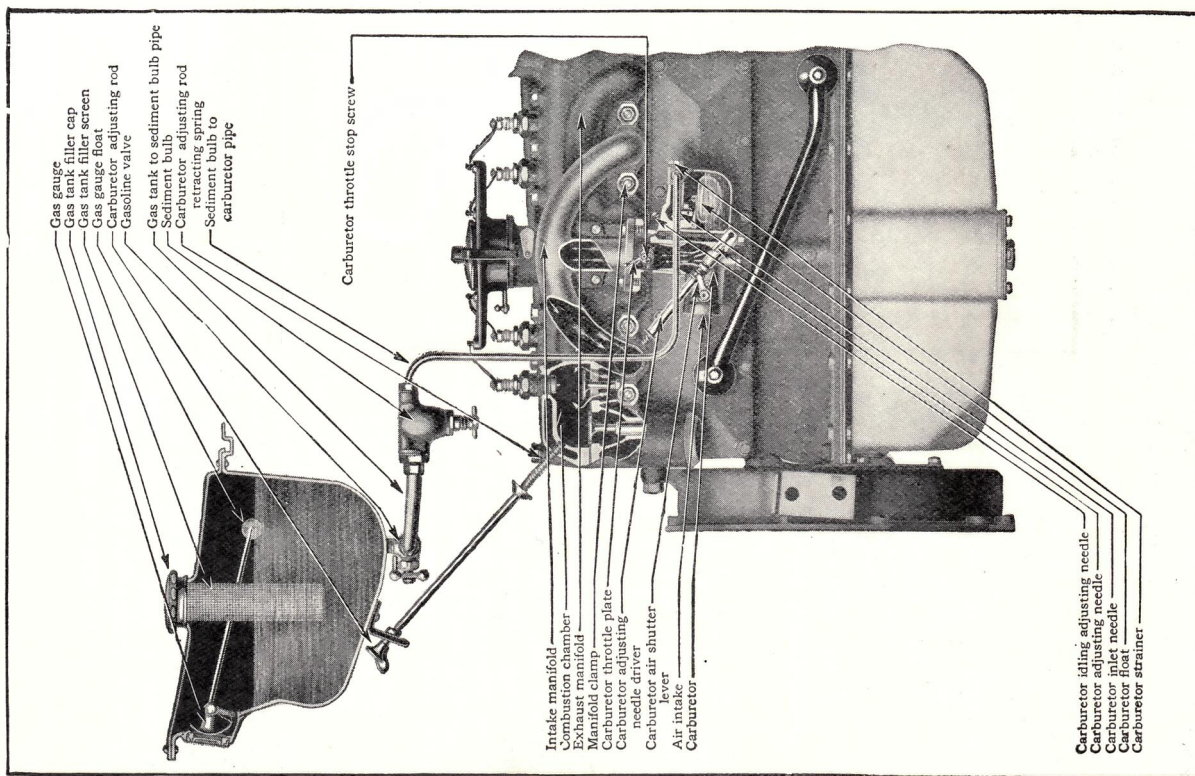
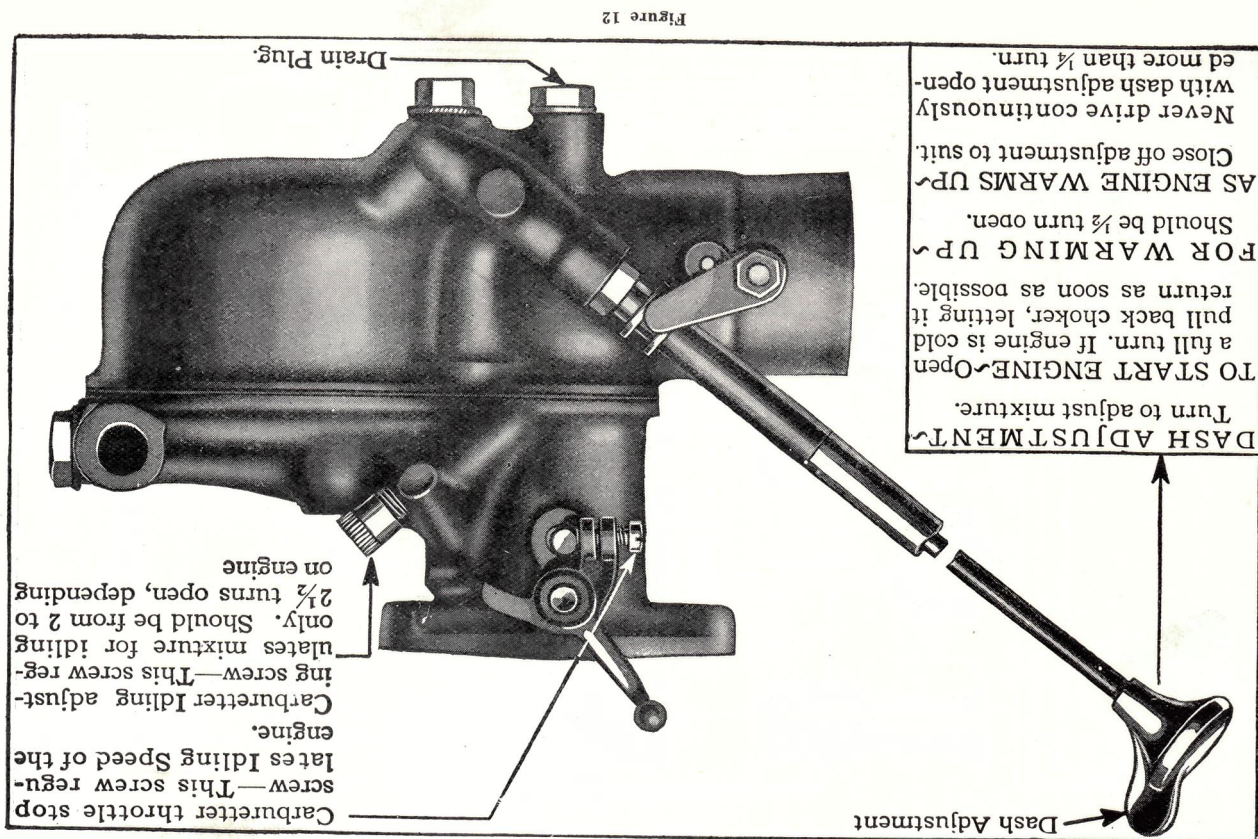

Figure 11
Figure 12
2. Occasionally the sediment bulb should be drained by loosening the thumb screw at the bottom and allowing any water or dirt to drain off. (See Fig. 11.)
- (a) Cleaning.—Occasional cleaning will ensure the best carburetter operation. Close the valve under the fuel tank, to prevent loss of fuel. Loosen the small nut and remove the carburetter strainer (see Fig. 11). Clean this strainer and replace, being sure to turn the nut up tight. It is a good plan to occasionally remove the drain plug at the bottom of the carburetter (see Fig. 12), and drain for a few seconds.
- (d) To Set Idling Adjustment.—Fully retard the spark lever. Set the carburettor throttle stop screw (see Fig. 12) so that the engine will run sufficiently fast to keep from stalling. Turn the idling adjustment screw (see Fig. 12) in or out until the engine hits evenly without rolling or skipping. The correct setting of the idling adjustment screw is approximately 2 to 2½ turns from its seat. Next turn off stop screw until the exact engine idling speed is obtained. This adjustment should be made with the engine warm.